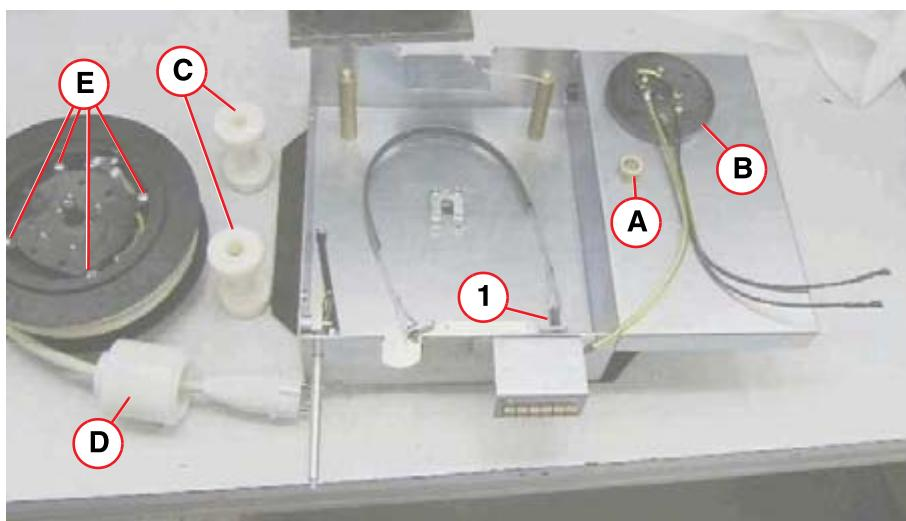

Fig. 72: Cable winch removed
- Remove the spacer ring and the upper plate (with the cables) from the axle of the cable winch (see (A / B / Fig. 72 / p. 77)).
- Remove the two white plastic rollers (see (C / Fig. 72 / p. 77)).
- Take the white plastic ring (see (D / Fig. 72 / p. 77)) out of the guide and carefully release the brake to release the spring tension.
- Remove the four screws (see \(E/Fig. 72 / p. 77\)).
- Install the two white plastic rollers (see (C/Fig. 72 / p. 77)).
- Install the upper connector plate and the spacer ring (see (A / B/Fig. 72 / p. 77)).
The cable winch should not wind on its own. Use the screw (see \(1/Fig. 72 / p. 77\)) to adjust the braking force.